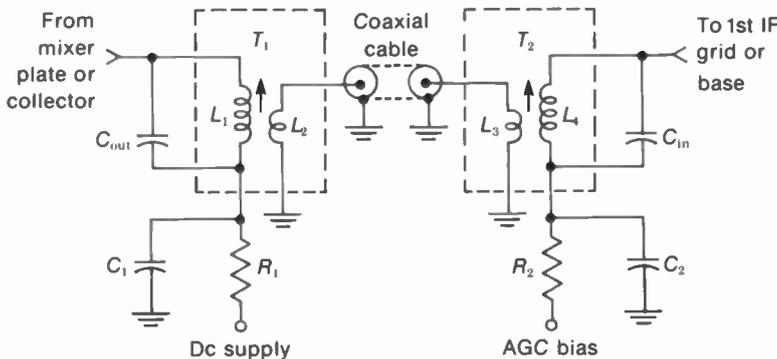

FIGURE 23-11 LINK COUPLING FROM MIXER OUTPUT ON THE RF TUNER TO THE FIRST IF STAGE ON THE MAIN CHASSIS.
**Link coupling.** See Fig. 23-11. This method is generally used to couple the IF signal from the mixer stage on the rf tuner to the first IF stage on the main chassis. The link is a 75- $\Omega$  coaxial
Referring to Fig. 23-11, the mixer output transformer  $T_1$  is on the rf tuner. The secondary winding  $L_2$  has just a few turns for a stepdown of the voltage and impedance with reference to the primary. In addition,  $L_2$  is connected to a jack on the tuner that takes the plug of the coaxial cable. At the other end, the plug connects the IF signal to the IF transformer  $T_2$  on the receiver chassis.  $L_3$  here is the primary to step up the signal volt-